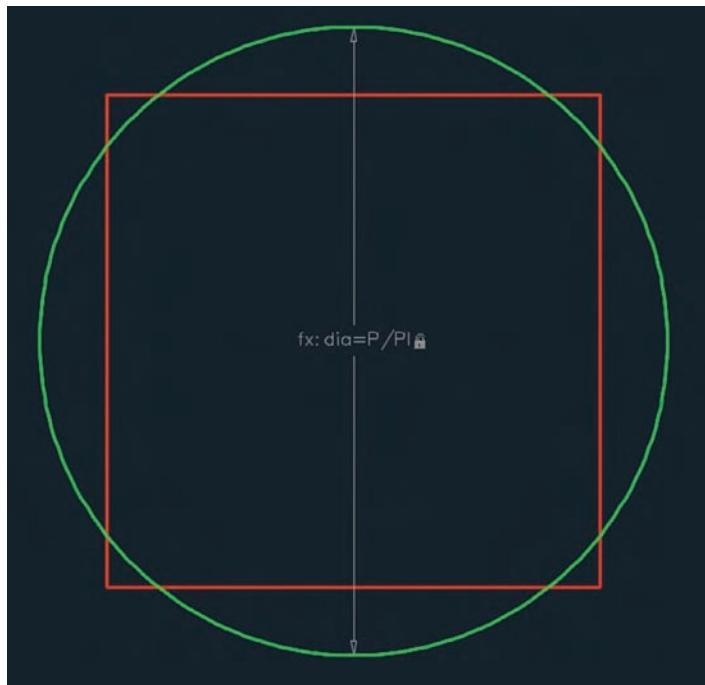

FIGURE 12.9 Squaring the circle with constraints defined by formulas
10. Select the Diameter constraint tool in the Dimensional panel, select the circle, click a point inside the circle to locate the dimension line, type  **$dia=P/PI$** , and press Enter. The variable PI is hard-coded as 3.14159265; there is no need to define it as a user variable. The circumference of the circle is now equal to the perimeter of the square, traditionally called *squaring the circle* (see Figure 12.9).